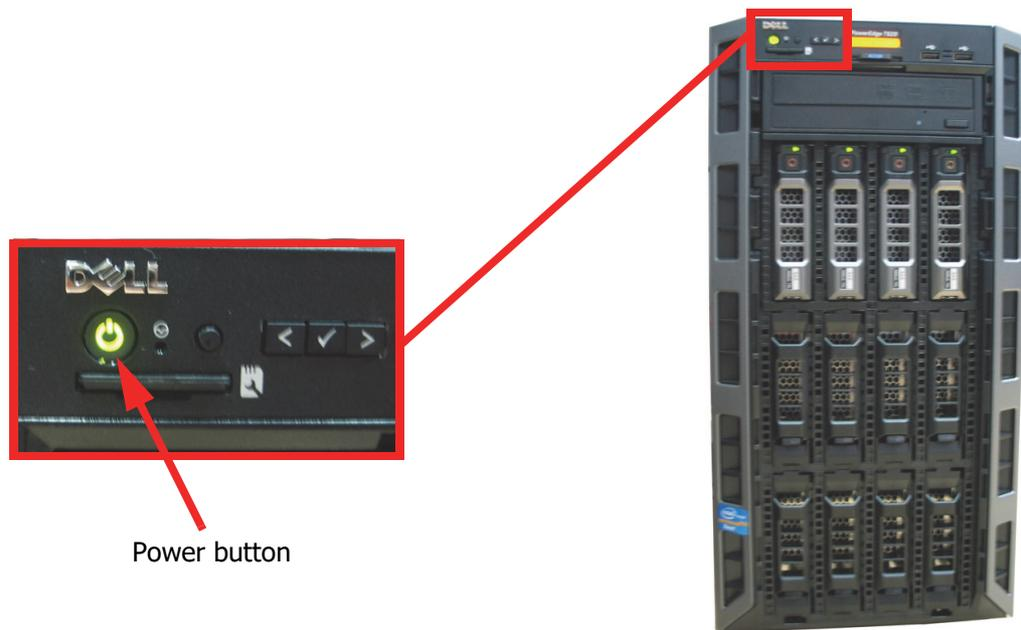

Figure 150: Power button location on controller front panel (shown with cover removed)
5. Power off the primary controller by briefly pressing the power button (see Figure 150).